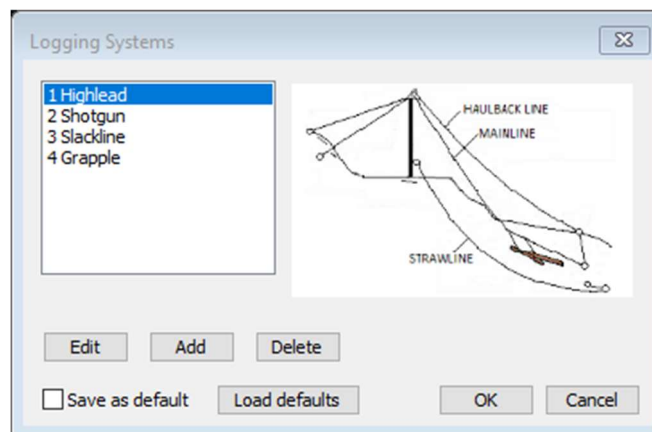

Figure 2-4: *Logging Systems* dialogue box.
7. Select Cable-Analysis tab in the ribbon bar, then click on the  *Logging Systems* button. The *Logging Systems* dialogue box shown in Figure 2-4 below will appear.